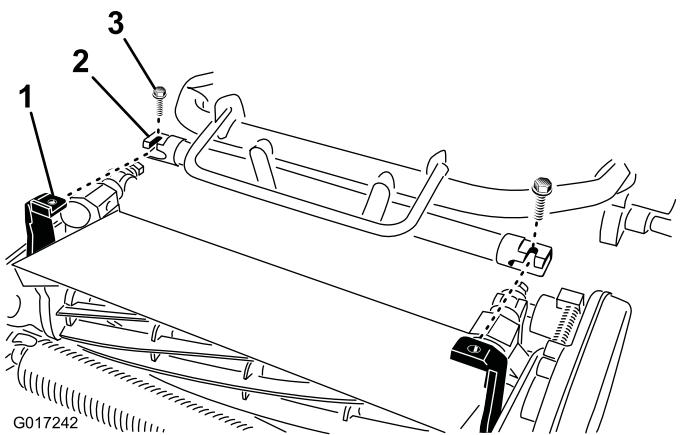

Figure 5
4. Maneuver the traction unit frame (Figure 5) forward until it engages the cutting unit pivot arms.
5. Secure the traction unit frame to the cutting unit pivot arms with 2 bolts (3/8 x 3/4 inch) (Figure 5).